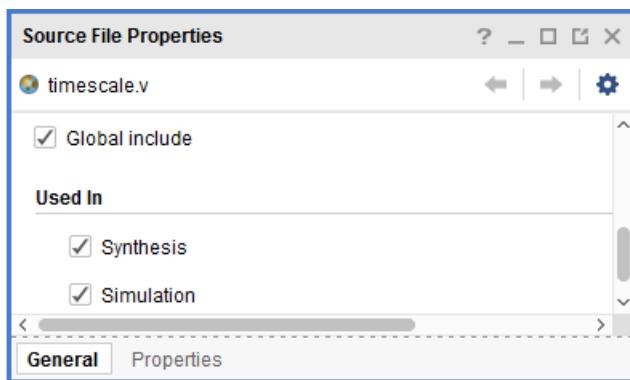

Figure 1-9: Source File Properties Window with Global Include
2. Check the **Global include** checkbox in the Source File Properties window, as shown in Figure 1-9.